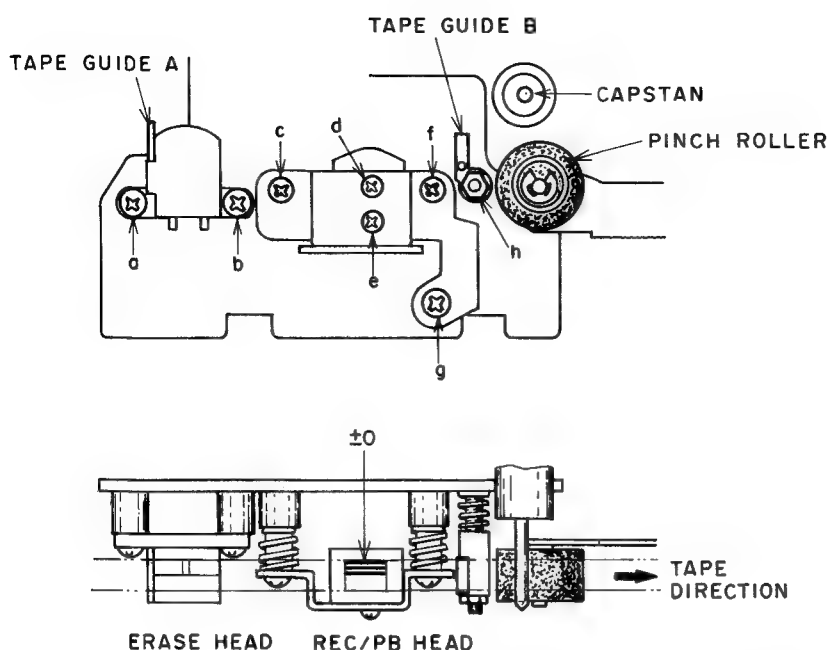

Fig. 9 Head Adjustment
(Refer to Figs. 9, 10)
- 2) At playback mode, using the tape guide (A) shown in Fig. 9 as standard for height, adjust tape guide (B) height with tape guide height adjustment nut so that the tape runs smoothly and does not catch on the tape guides.
### 2. RECORDING/PLAYBACK HEAD HEIGHT ADJUSTMENT (Refer to Figs. 9, 10)
- 2) As shown in Fig. 9 adjust head height with screws (c), (f) and (g) until the upper edge of the tape is the same height as the upper edge of the left channel REC/PB head core.
(Refer to Fig. 9)
- 1) Playback a 10 kHz pre-recorded cassette azimuth alignment test tape and adjust screw (c) shown in Fig. 9 to obtain maximum output on both channels.